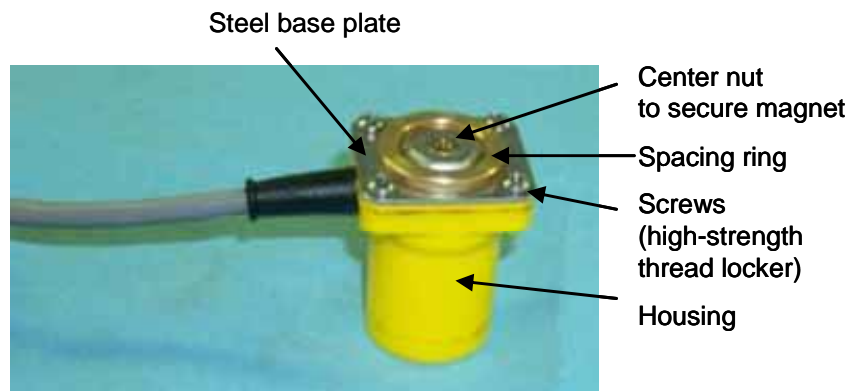

Figure 122. Geophone with base plate attached.
7. Attach the steel base plate, which will secure the magnet to the geophone housing (figure 122).